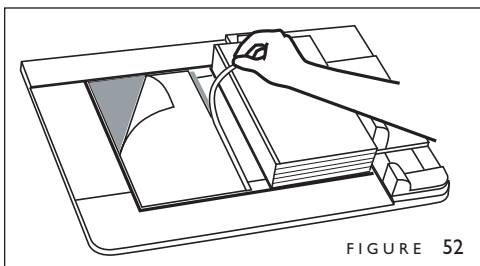

FIGURE 52
14. Remove the remaining release papers, (figure 52), and bring the left panel of the Fastback Hardcover over onto the book block with the top and right edges of the cover abutting the purple stops (figure 52). Remove the book from Guide and rub the endleaves to ensure that they are securely fastened.